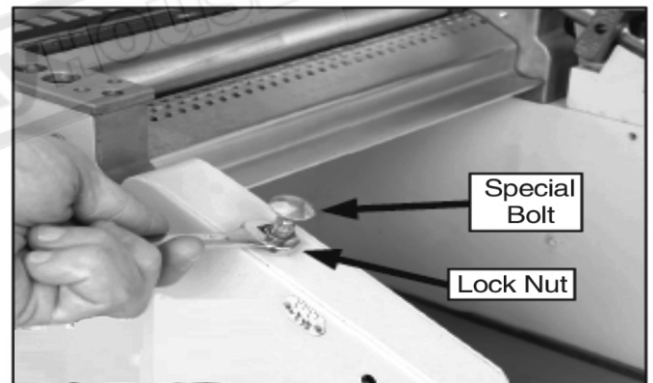

Figure 51. Table lock lever bolt.
4. Loosen the lock nut on the special bolt under the table, as shown in **Figure 51**.